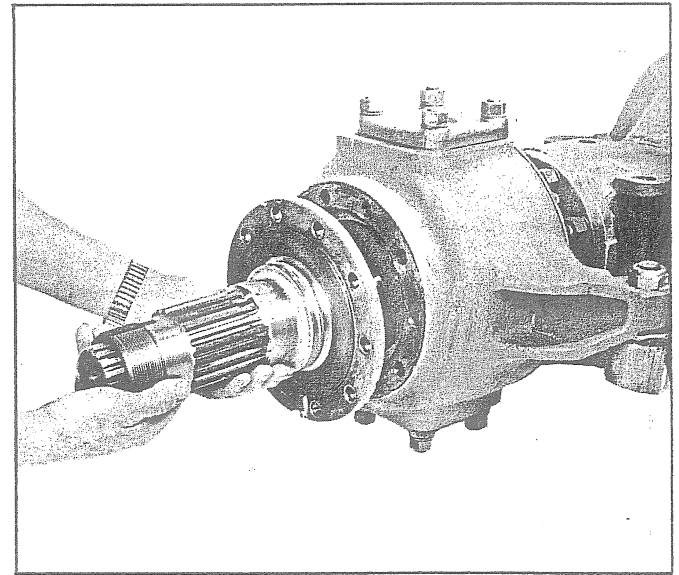

Fig. 27 - Installing Spindle Assembly
21. Slide spindle assembly over axle shaft and position it to the spindle support as shown in Fig. 27. The milled groove in the threaded portion of the spindle must be positioned toward the top of the axle.